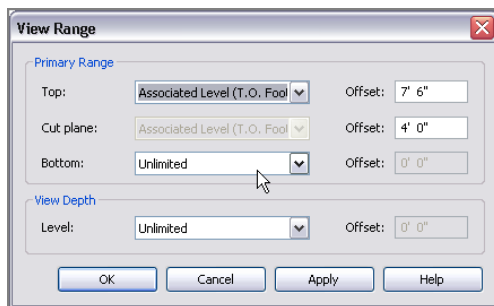

FIGURE 8.57: Again with the view range!
4. Set View Depth Level to Unlimited, as shown in Figure 8.57.